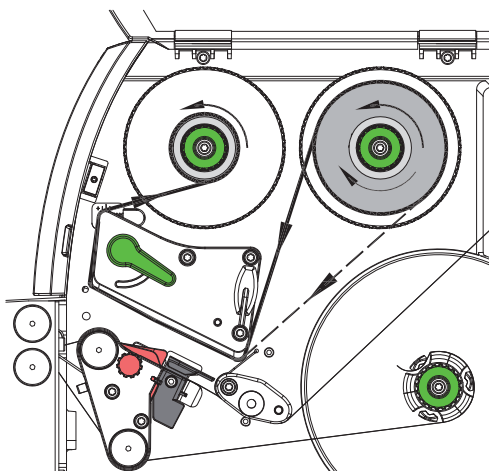

Figure 15 Transfer ribbon feed path
2. Turn the lever (6) counterclockwise to lift the printhead.
3. Slide the transfer ribbon roll (1) onto the ribbon supply hub (2) so that the color coating of the ribbon faces downward when being unwound.
4. Push the roll (1) against the stopper (7).
5. Hold the transfer ribbon roll (1) firmly and turn knob on ribbon supply hub (3) counterclockwise until the transfer ribbon roll is secured.
6. Slide a suitable transfer ribbon core (4) onto the transfer ribbon take-up hub (5) and secure it in the same way.
7. Guide transfer ribbon through the print unit as shown in Figure 15.
8. Secure starting end of transfer ribbon to the transfer ribbon core (4) with adhesive tape. Ensure counterclockwise rotation direction of the transfer ribbon take-up hub here.
9. Turn transfer ribbon take-up hub (5) counterclockwise to smooth out the feed path of the transfer ribbon.
10. Turn lever (6) clockwise to lock the printhead.